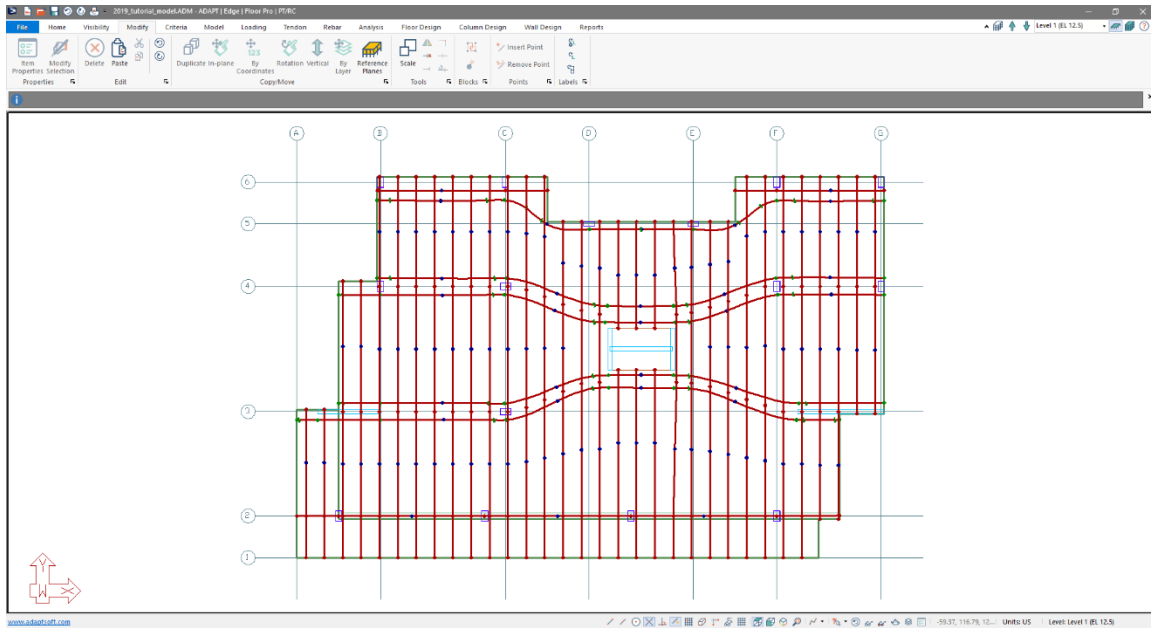

Figure 9-71
- Click on the *Zoom Extents*  icon. The user should see the tendon layout as shown in **FIGURE 9-71**. We now have our preliminary tendon layout.